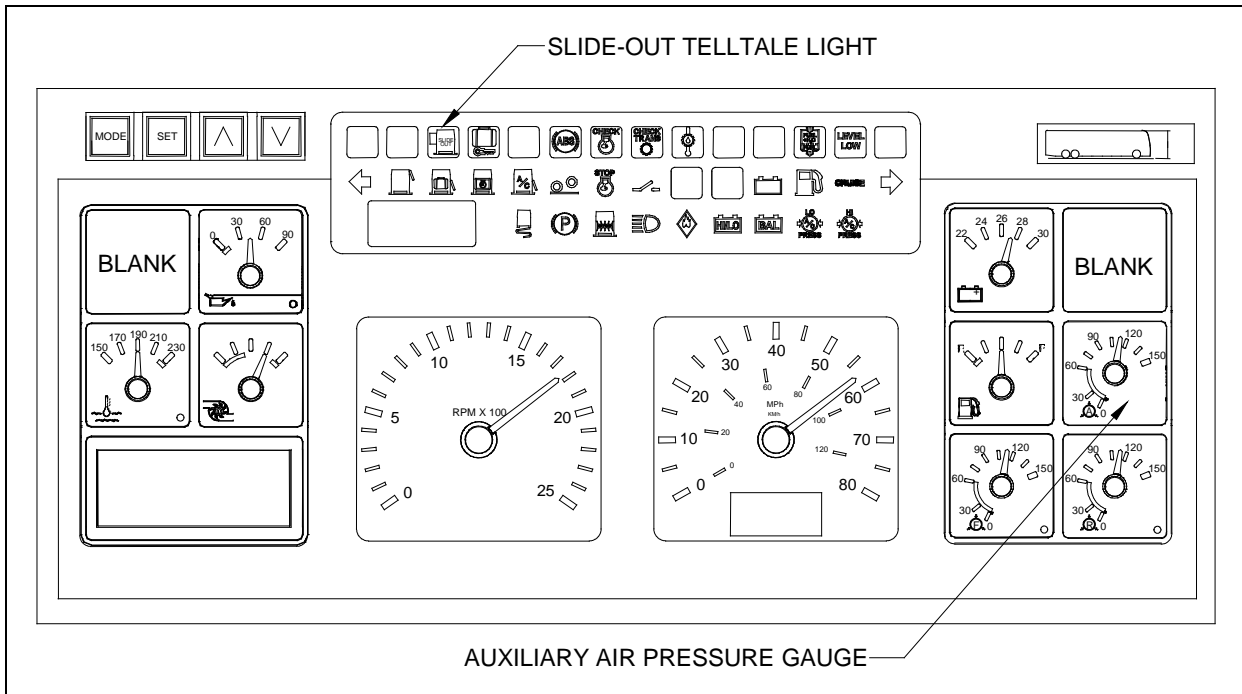

FIGURE 4 : VEHICLE DRIVER CONSOLE
2. Make sure the air pressure is 110 PSI minimum on the auxiliary air pressure gauge (figure 4).